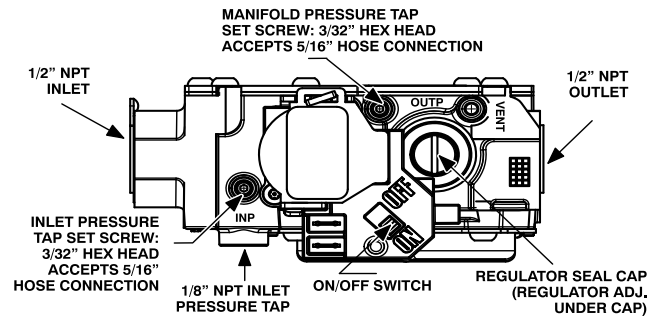

Fig. 65 – Gas Valve with Tower Pressure Ports
1. Adjust manifold pressure to obtain proper gas input rate. See Fig. 65.
screwdriver) counterclockwise (out) to decrease input rate or clockwise (in) to increase input rate. See Fig. 65.